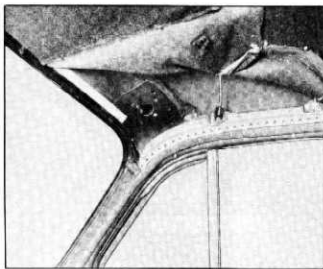

Fig. 28—Removing Headlining
2. Loosen trim around windshield and back window openings and on quarter panels above wheelhouse on applicable styles. Inasmuch as the trim is retained at these locations by pointed metal tabs (fig. 28), proceed slowly to avoid damaging material.